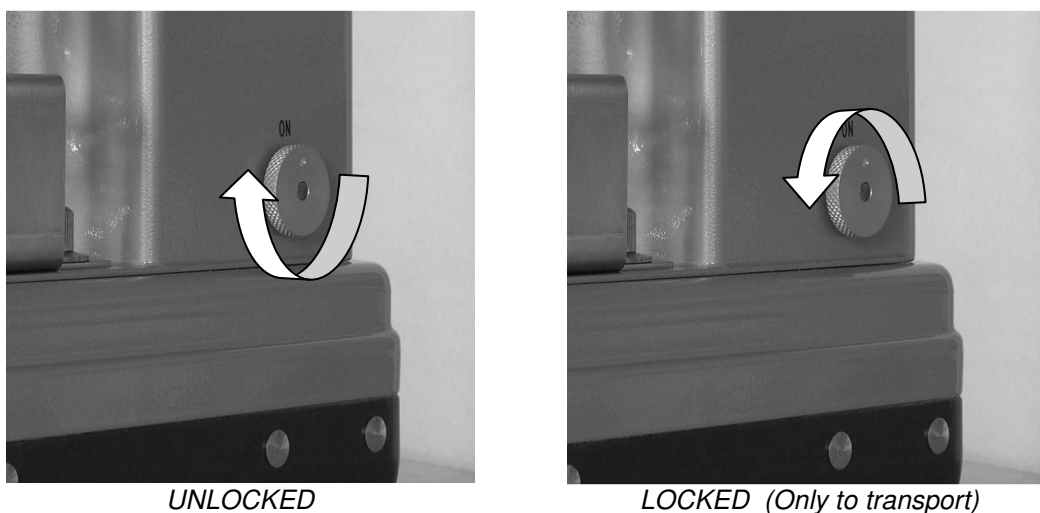

Fig. 1
- unlock the balance by rotating clockwise the knob on the right side of the instrument until it stops (Fig. 1 e Fig. 3 nr.15);